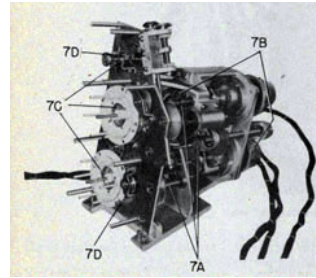

Figure 132-Assembling the Transmitter
7. If the transmitter assembly has been disassembled for an overhaul, perform the following steps to reassemble. See figure 132.